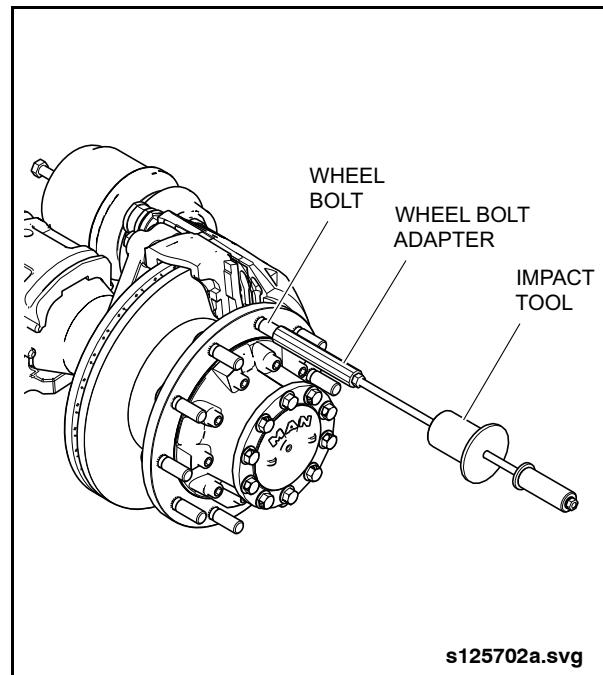

Fig. 2-7: Wheel Bolt Installation
1. Insert a new wheel bolt with the truncated end facing the wheel hub. See "Fig. 2-7: Wheel Bolt Installation" on page 11.